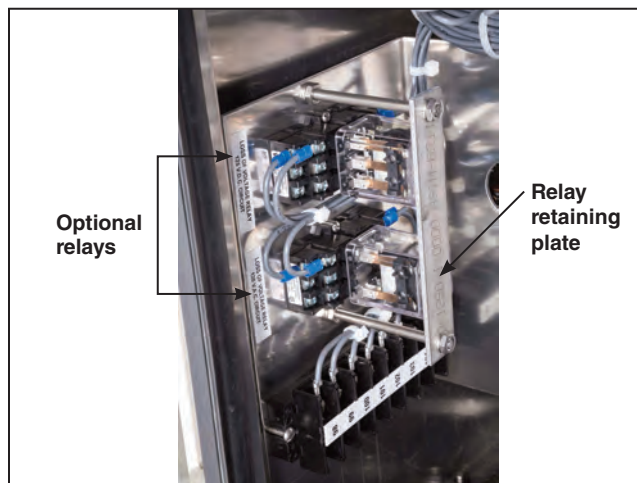

Figure 31. Check that all optional “ice-cube” style relays are fully seated and that the retaining plate is in place.
- Any optional “ice-cube” style relays (used for catalog option “-P” and “-T2”) are fully seated in their mounts (see Figure 31)